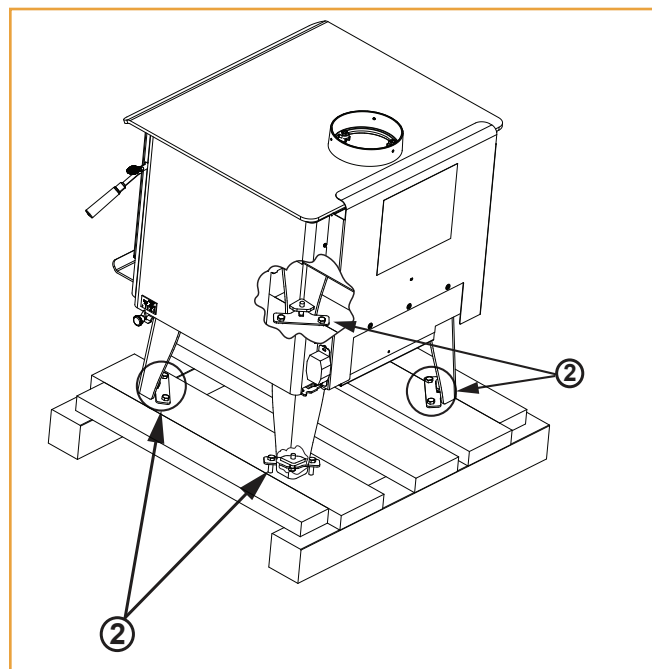

Figure 6.1
2. Using 7/16 socket or wrench remove (2) lag bolts and shipping bracket located at each leg of the appliance. **(Figure 6.1).** **Note:** Retain shipping brackets if being installed into a Mobile Home.